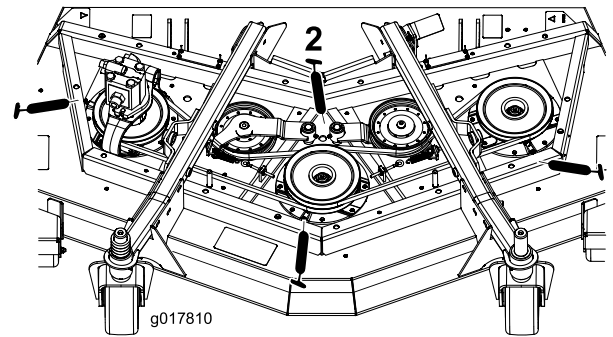

Figure 43
- 3 spindle-shaft bearings—located under the pulley (Figure 43)
- 2 idler-arm-pivot bushings (Figure 43)